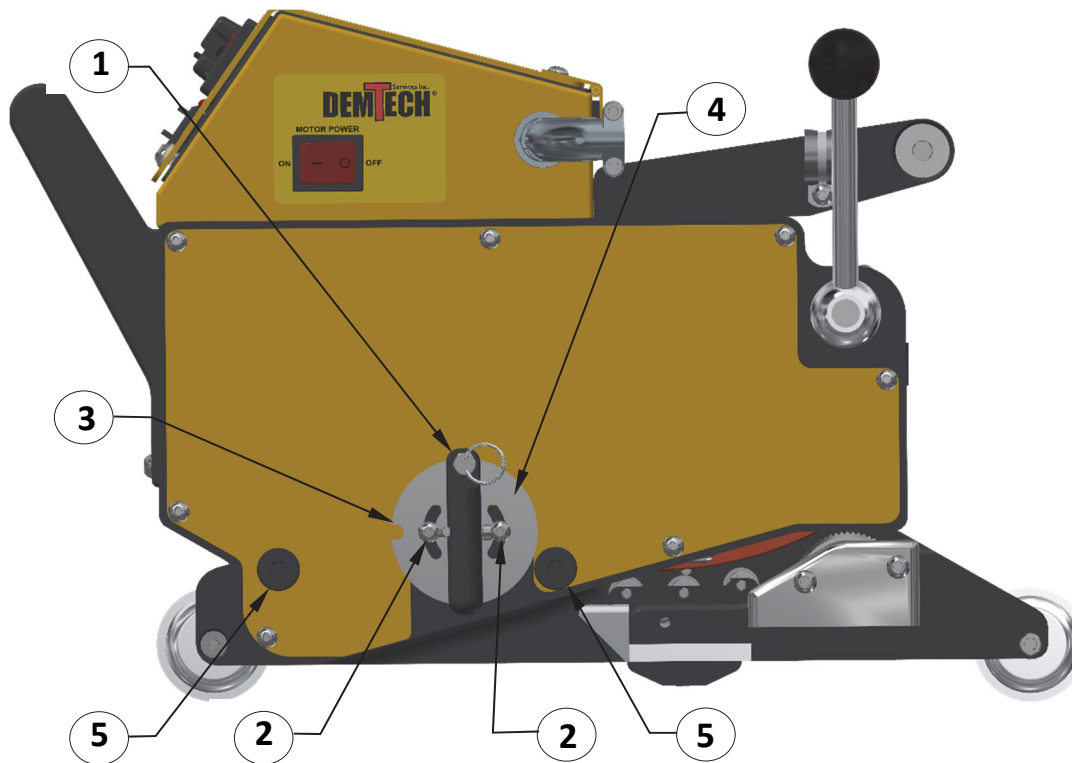

**Figure 5**
Before beginning Adjustment #2 make sure the Wedge Engagement Handle has no free play. If it does tighten the Pinion Gear Set Screw (1) (see Figure 5). This adjustment controls how close the Wedge is to the Nip Rollers when it is in the Engaged/Welding position.